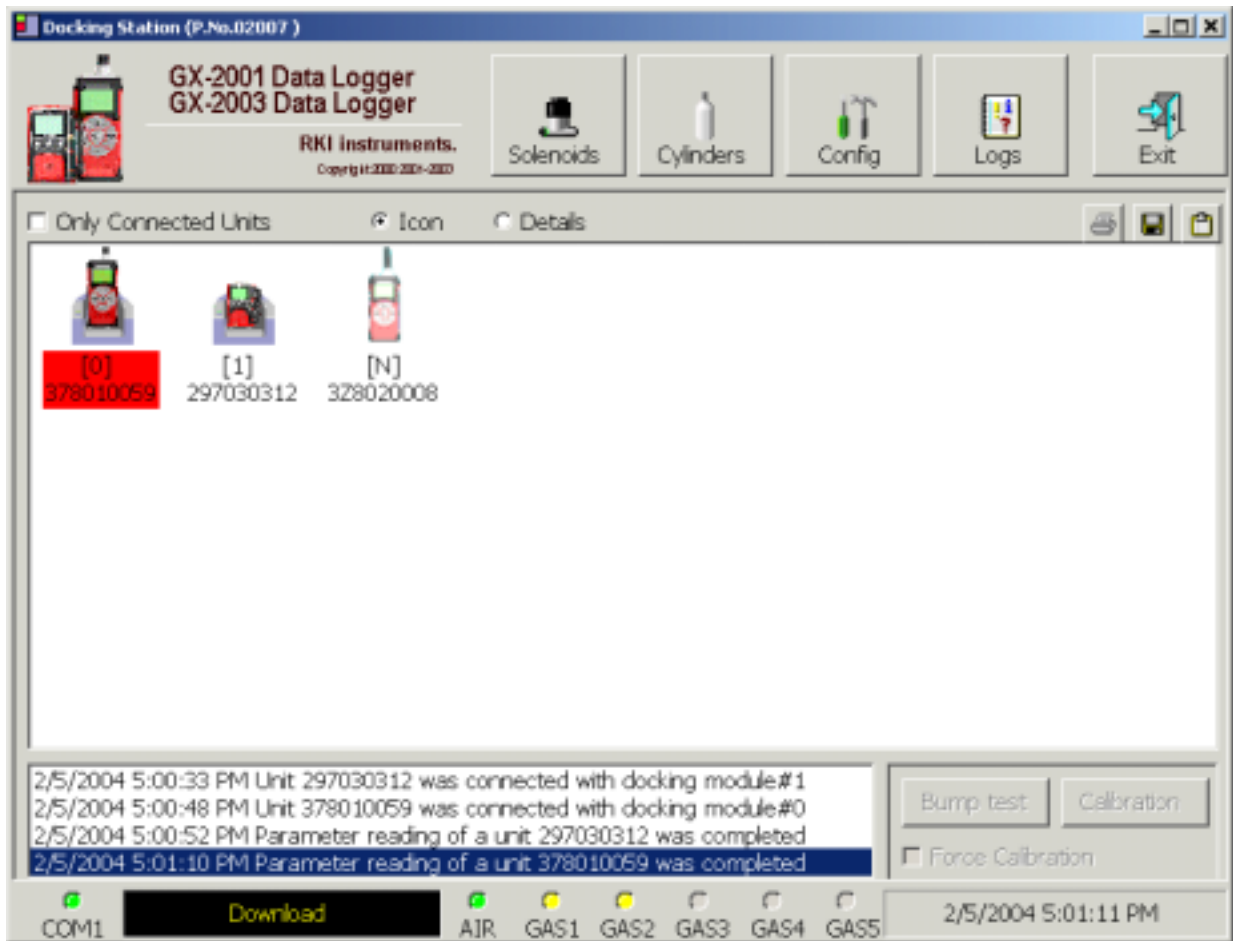

Figure 19: Instruments Connected to Data Cal 2000
7. The message window in the main program window will indicate when each unit is connected to the program and what actions are being taken, for example, parameter reading or automatic data downloading. In Figure 19 below, two instruments, a GX-2003 and a GX-2001 are connected to the Data Cal 2000 and their parameters have been downloaded.